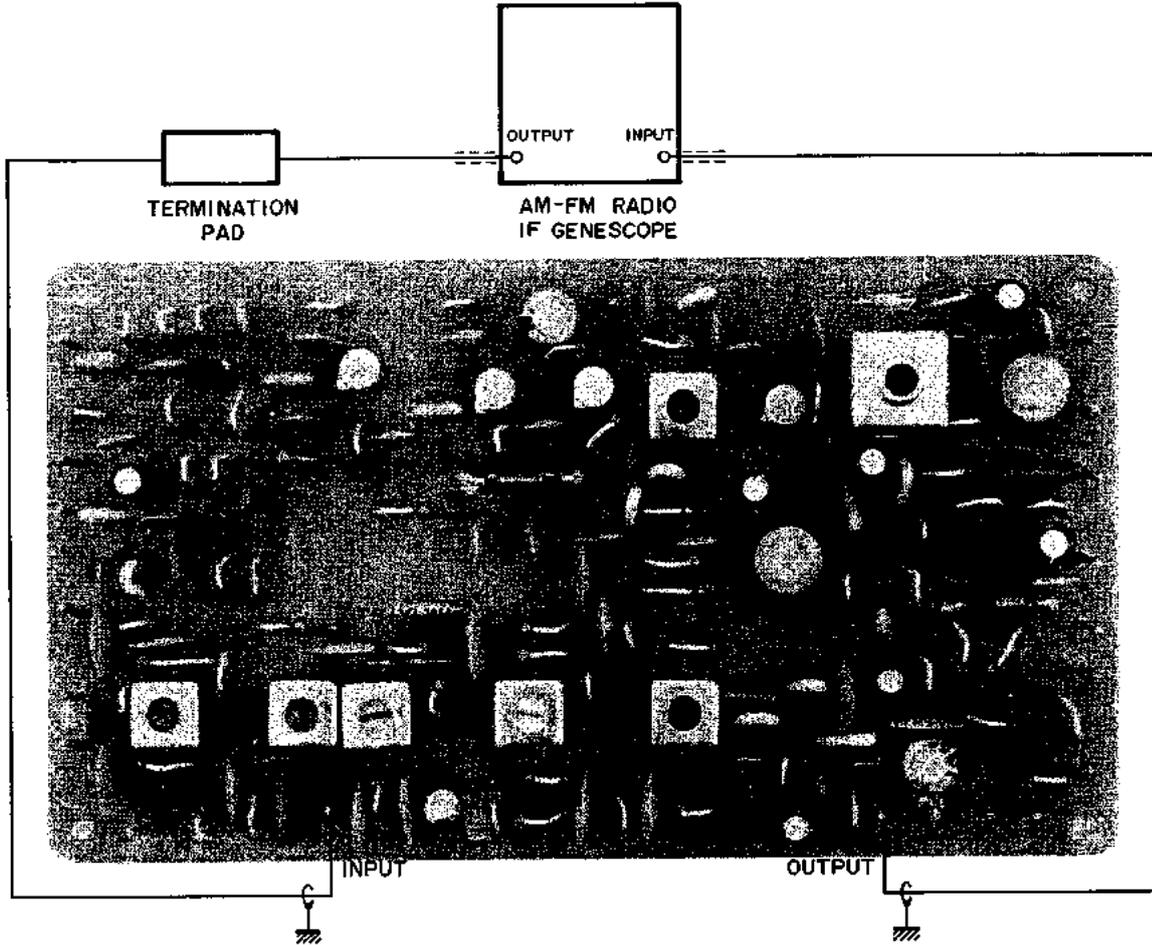

Fig. 14 INSTRUMENT CONNECTIONS
- 1) Connect the AM-FM Radio IF GENESCO (hereinafter referred to as GENESCO) lead wires to input terminal as well as output terminal of the FM-AM IF Amp. P.C. Board as shown in Fig. 14.